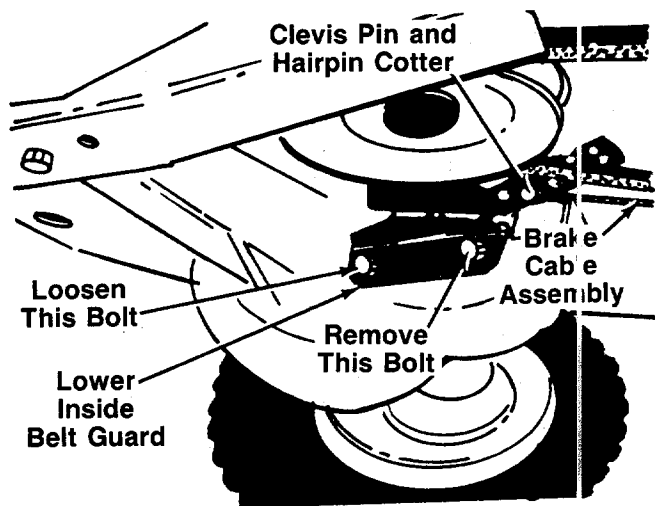

FIGURE 3.
6. Disconnect the brake cable from the lower inside belt guard by removing the hairpin cotter, clevis pin and flat washer. See figure 3.
7. Remove the front hex bolt from the lower inside belt guard as shown in figure 3.
8. Loosen the second bolt (**do not remove**), then pivot the guard downward, and slip the deck belt off the engine pulley. See figures 3 and 4.